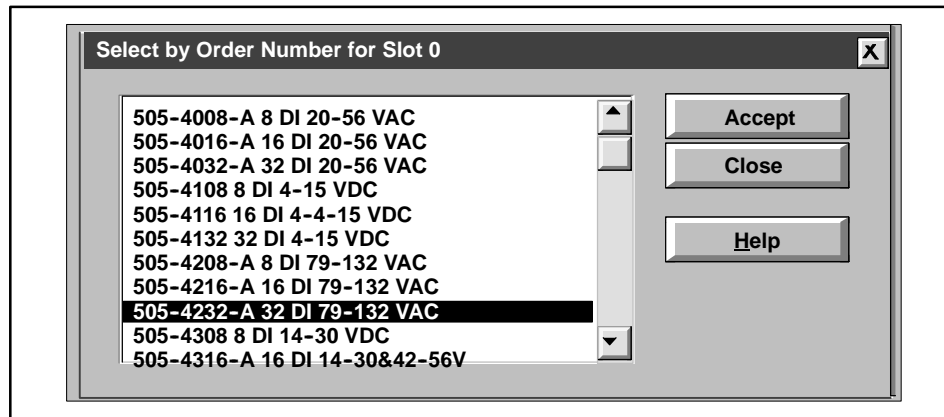

Figure 9-7 505 Module Selection Dialog Box
9. If you have selected from the SIMATIC family, double-click in the first box in the Order Number column. A selection list of 505 modules appears (Figure 9-7).